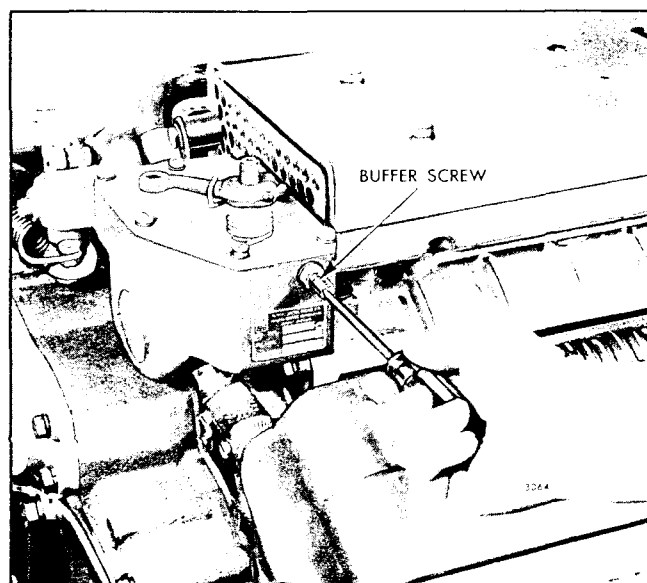

Fig. 6 - Adjusting Buffer Screw
1. With the engine running at idle speed, turn the buffer screw in (Fig. 6) so that it contacts the